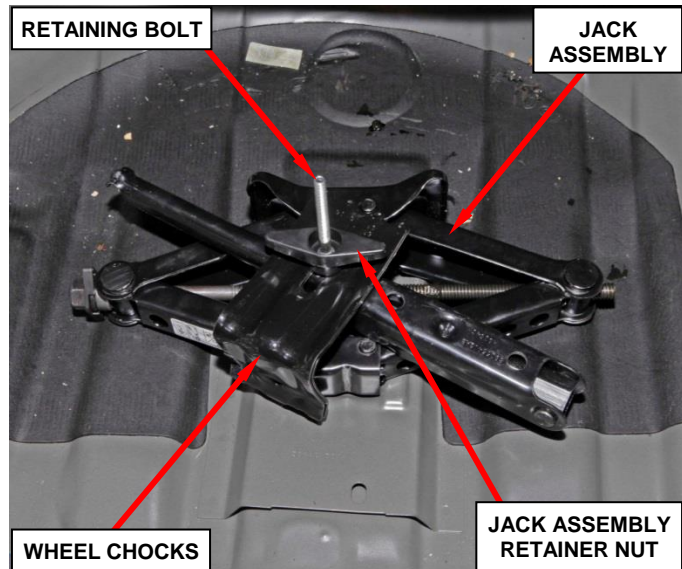

Figure 7 – Compact Spare Configuration
9. Install both wheel chocks as a nested pair onto the retaining bolt in the orientation shown (Figure 7 or 8).
10. Install the jack assembly retainer nut (Figure 7 or 8).